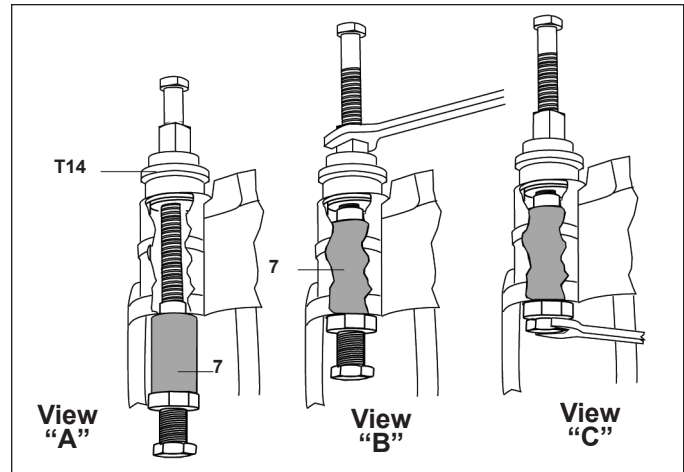

Figure 77 – View “A” and “B”: Draw the Brass Bushing into Position. View “C”: Lock the Bushing into Position
4.6.22 With the dimpling tool (T16) in position, tighten the screw in its base until it contacts the dimpling screw housing. The movement of this screw forces three points outwards, leaving indentations in the brass bushing. See Figure 77, view “C”.